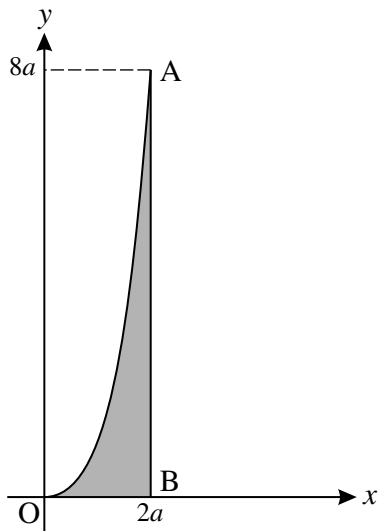

Fig. 4.2
- (b) A uniform lamina occupies the region bounded by the curve  $y = \frac{x^3}{a^2}$  for  $0 \leq x \leq 2a$ , the  $x$ -axis and the line  $x = 2a$ , where  $a$  is a positive constant. The vertices of the lamina are  $O(0, 0)$ ,  $A(2a, 8a)$  and  $B(2a, 0)$ , as shown in Fig. 4.2.